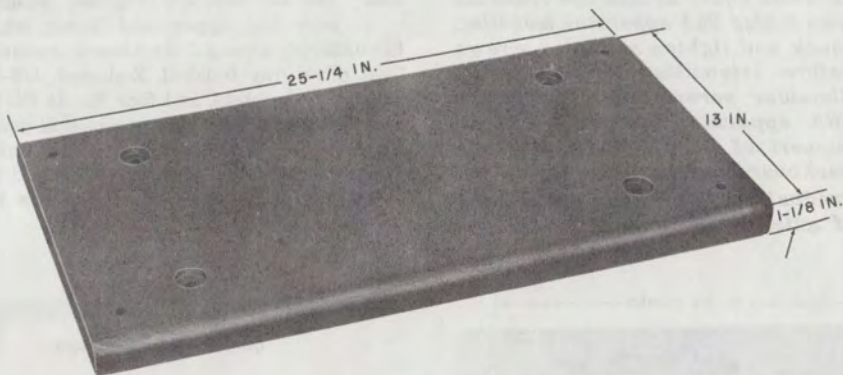

Fig. 27—Insulating Base per ED-91180-70
5.07 The insulating base per ED-91180-70* (Fig. 27) is a wooden base for 11- and 18-plate cabinets.